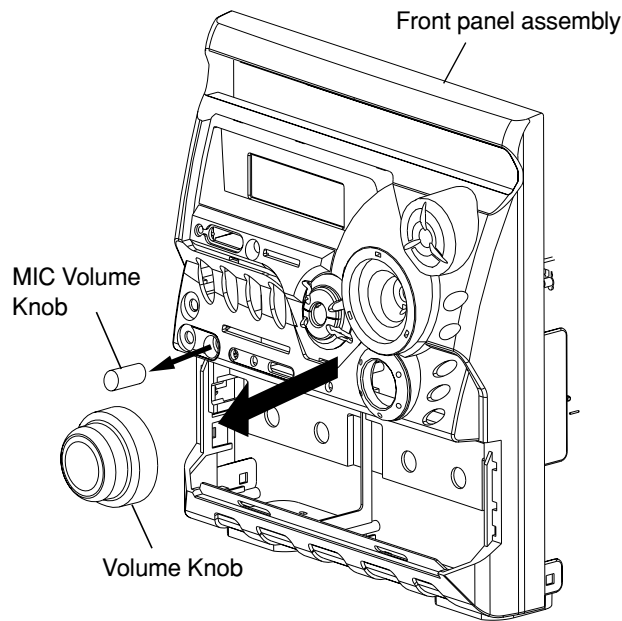

Fig.24
1. Pull out the volume control knob and MIC Volume Knob from the front of the front panel assembly. (Fig.24)